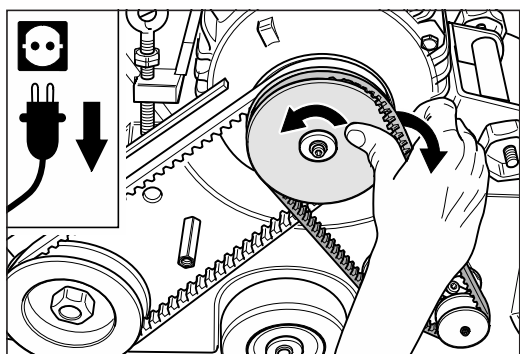

Fig. 67 Remove the fan V-belt.
- 8 Turn the motor pulley and allow the fan V-belt to run off the motor pulley (fig. 67).